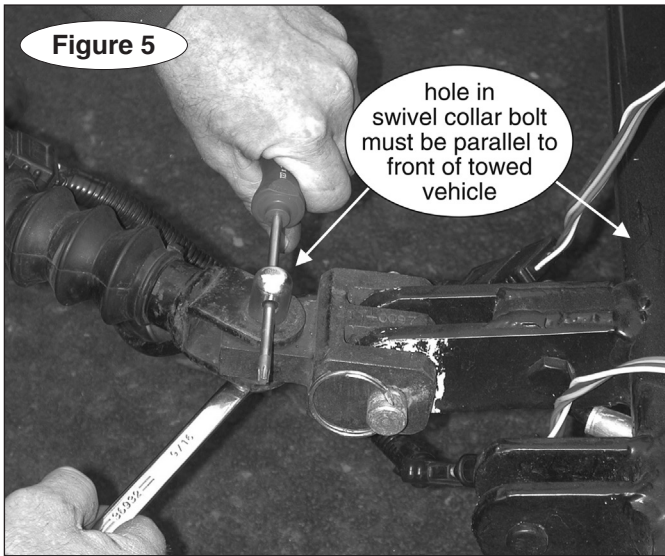

Figure 5
4. The pre-drilled hole at the top of each swivel collar bolt must be aligned so that it is parallel to the front of the towed vehicle. Using a Phillips screwdriver to hold the bolts in position (Figure 5), tighten the nut at the bottom of each swivel collar bolt to secure it to the tow bar.